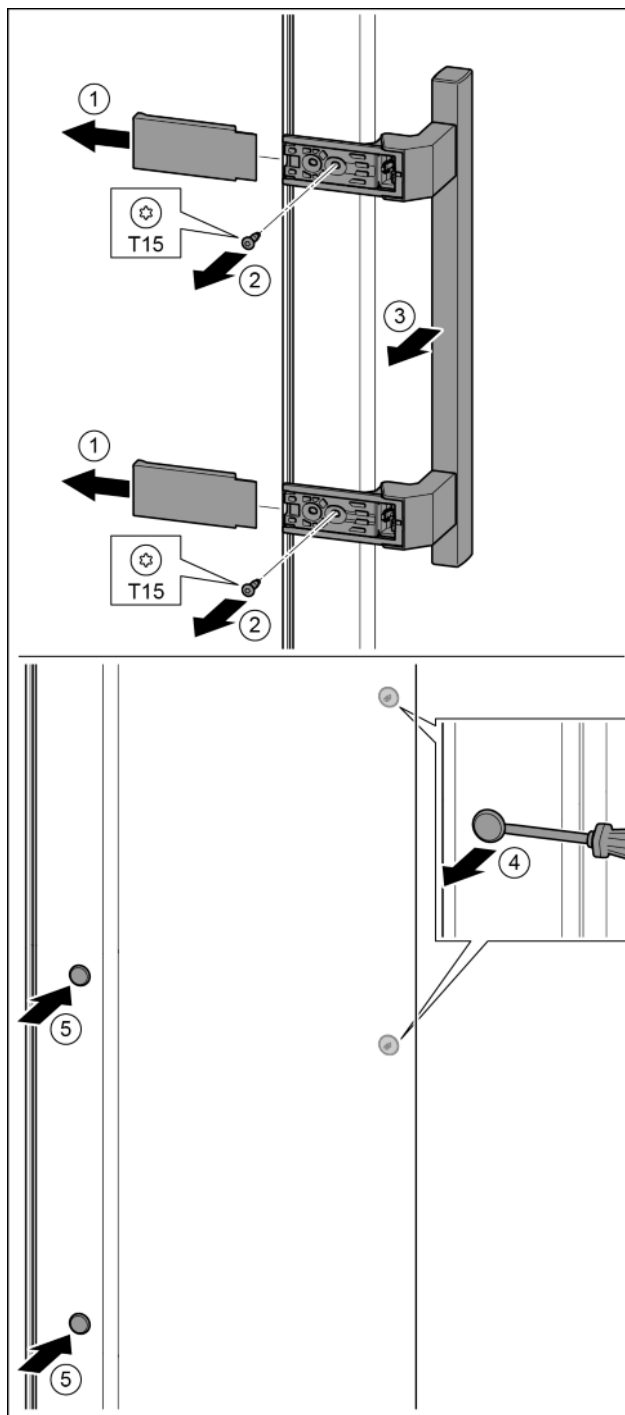

Fig. 33
- Pull off the cover. *Fig. 33 (1)*
- Remove the screws with the T15 screwdriver. *Fig. 33 (2)*
- Remove the handle. *Fig. 33 (3)*
- Carefully lift up the side plugs with a slotted screwdriver and pull them out. *Fig. 33 (4)*
- Insert the plugs again on the other side. *Fig. 33 (5)*